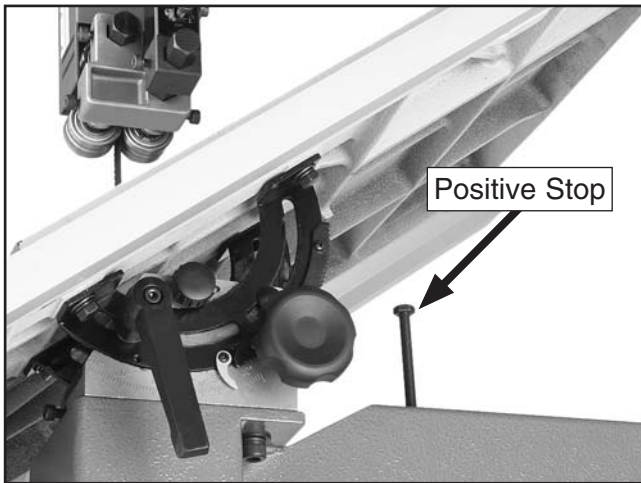

Figure 32. Installed positive stop bolt.
4. Thread the positive stop bolt into the threaded hole on bandsaw body, as shown in **Figure 32**.